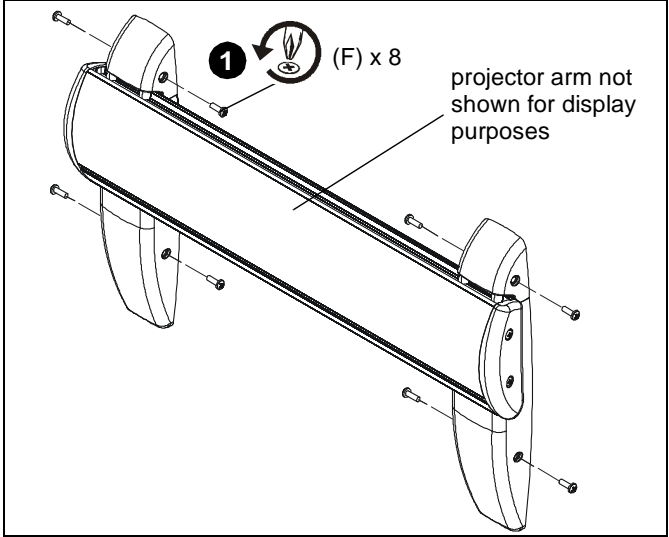

Figure 41
1. Remove eight #8-32 x 1/2" Phillips pan machine screws (F) from wall bracket covers. (See Figure 41)